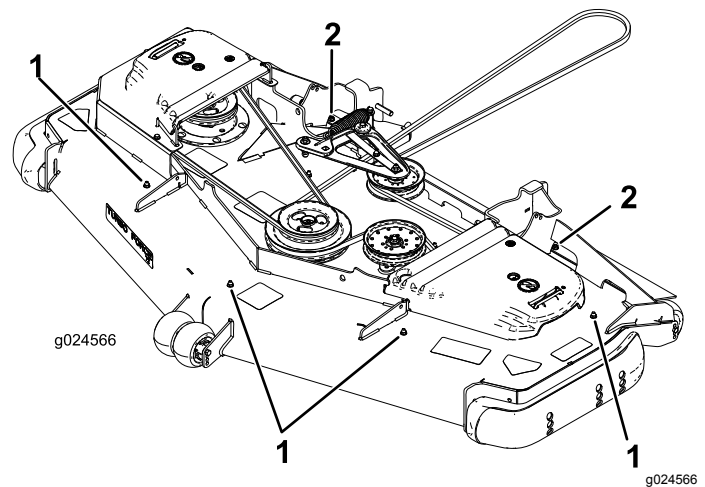

Figure 1
7. Remove the 4 hex-socket screws (5/16 x 3/4 inch) and 4 flange nuts (5/16 inch) plugging the exposed mounting holes in the deck and the inboard tire flap fastener on each side (**Figure 1**).